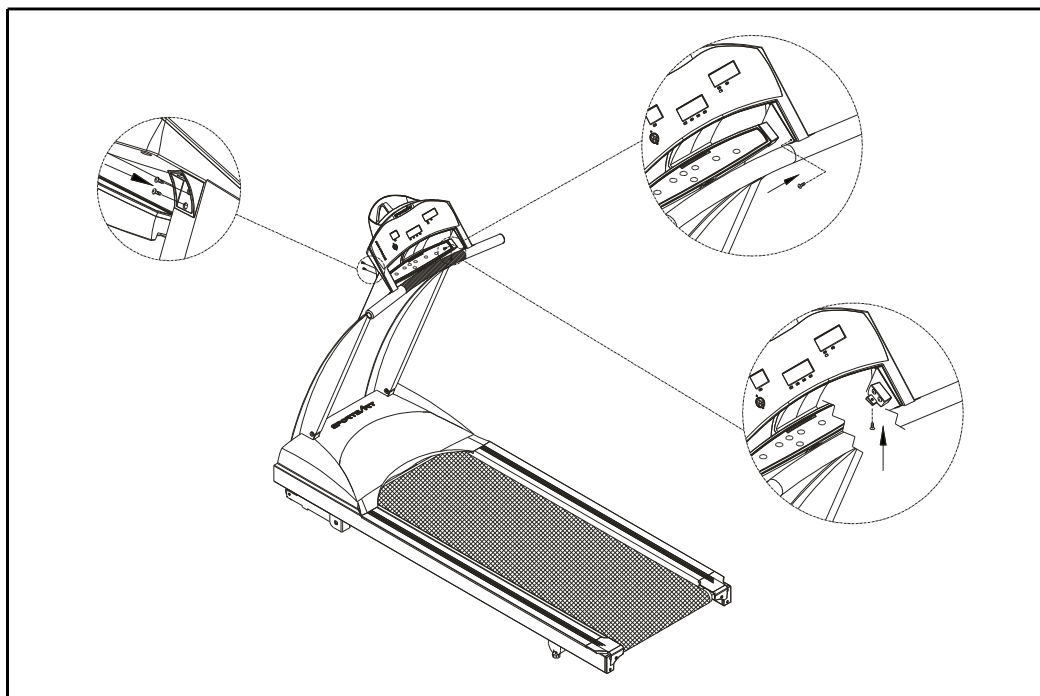

Fig.4
6. Use the screwdriver to tighten all screws securely. (see Fig. 4)